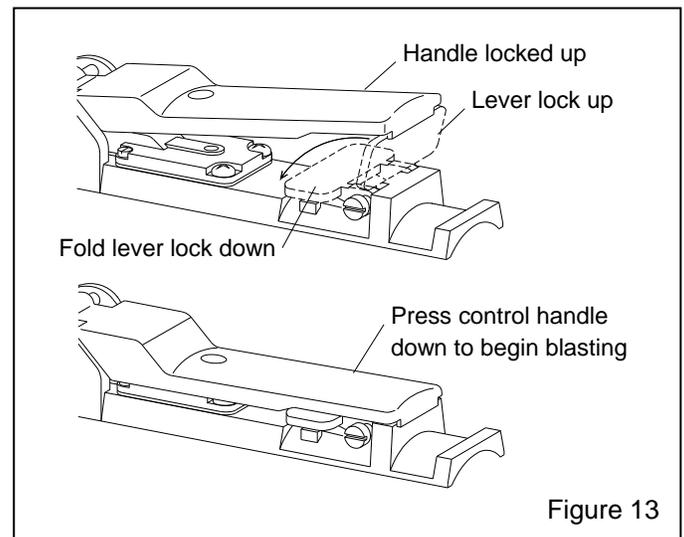

Figure 13
**3.4.4 Fold down the safety lever lock and press the remote control handle as shown in Figure 13. Within a few seconds the pop-up valve will automatically close, and the blast machine will pressurize to start blasting.**